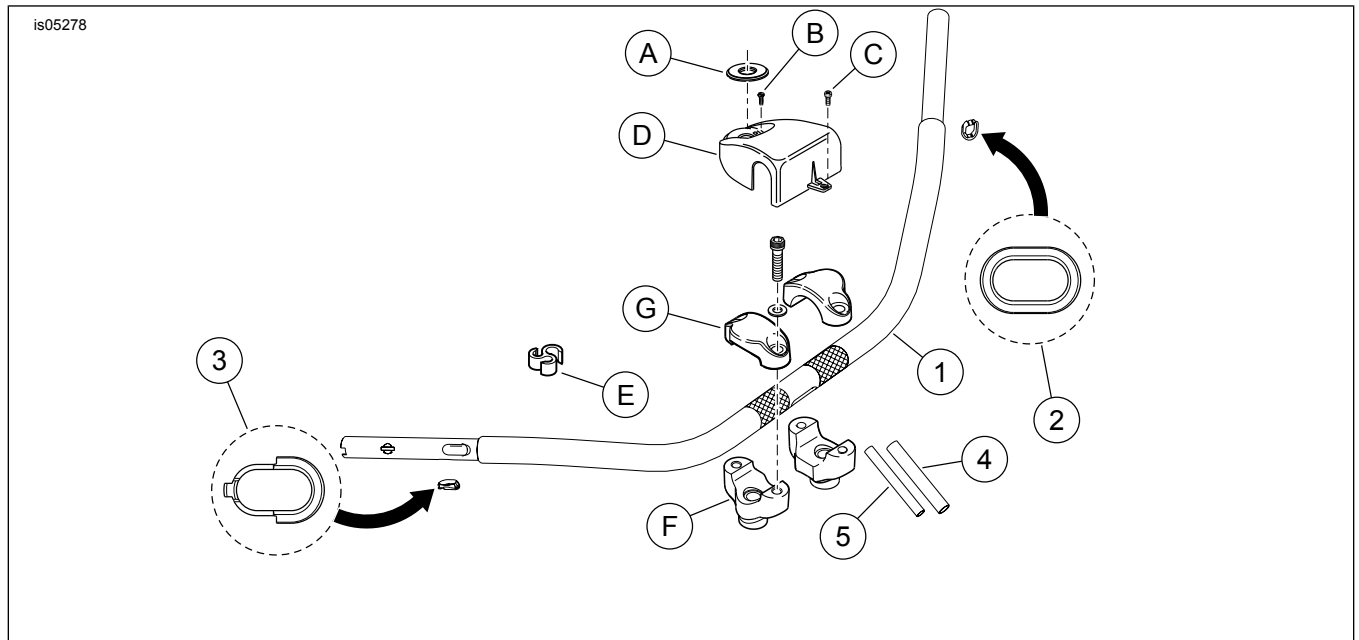

Figure 9. Service Parts for Beach Handlebar Kit (55967-08)
- a. See Figure 9. Obtain **new** handlebar clamp cover (D, sold separately), and wind deflector and three hex head serrated flange screws saved earlier. Fasten cover to wind deflector with screws and alternately tighten.
4. See Figure 9. **For North America:** Obtain a **new** handlebar clamp cover (D, sold separately), and the two **flat head** Phillips screws (B, saved earlier). **For Australia, Brazil, England, Europe and Japan:** Obtain a **new** handlebar clamp cover (D, sold separately), and two **new** screws (B, part number 2935A, purchased separately).
5. See Figure 9. Position cover onto flange at top of headlamp nacelle. Install two screws (B) to secure handlebar clamp cover to fork lock mechanism. **For North America:** Tighten flat head Phillips screws.